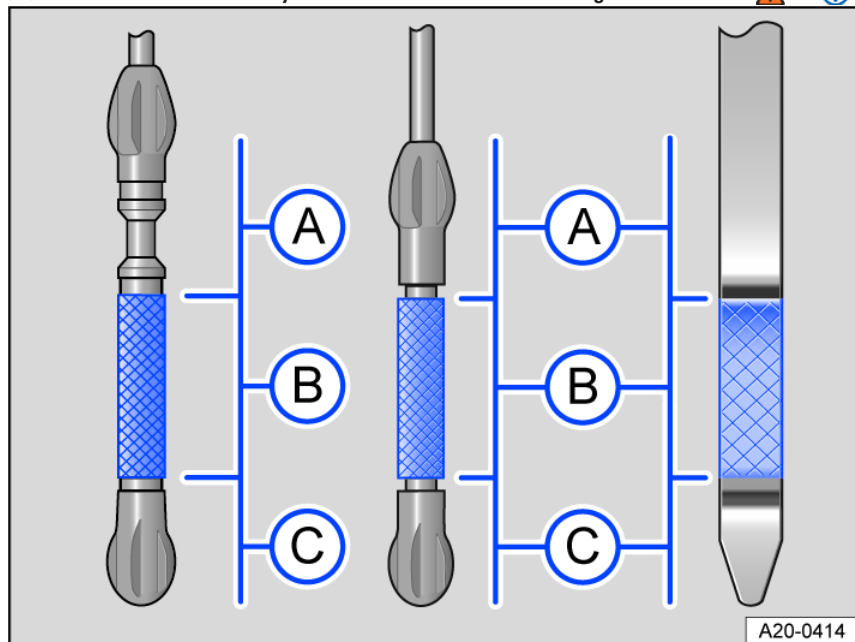
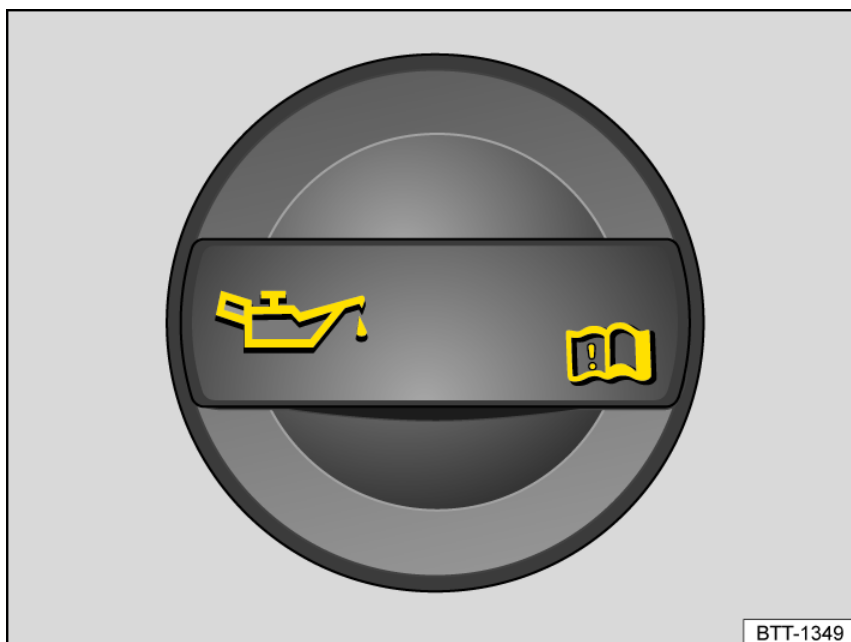

Fig. 197 Engine oil level markings on the oil dipstick (versions).
Fig. 198 In the engine compartment: engine oil filler cap (general example).
4. Find the engine oil filler and the dipstick. You can identify these by the 🛢 symbol on the engine oil filler cap *fig. 198* and the colored handle on the dipstick *fig. 197*. If you are not sure where the cap and the dipstick are located, contact an authorized Volkswagen dealer or authorized Volkswagen Service Facility for assistance.
7. Remove the dipstick again and read the oil level on the dipstick as described below *fig. 197*:
- (A) The engine oil level is too high. If necessary follow the messages in the instrument cluster display or **contact an authorized Volkswagen dealer or authorized Volkswagen Service Facility for assistance** ⇒ ⚠.
- (B) The engine oil is at the correct level. Engine oil can be added up to the **upper edge of this area**, for example if there is heavy engine load. Continue with step 8 or step 16 ⇒ ⚠.
- (C) The engine oil level is too low. **Add engine oil immediately**. Continue with step 8.
9. Remove the cap on the engine oil filler *fig. 198*.
13. When you are done adding oil, the oil level should be in the center of area *fig. 197* (B). The engine oil level must not be in the area *fig. 197* (A).
14. If you accidentally add too much oil and the oil level is in area *fig. 197* (A), **do not start the engine**. Contact an authorized Volkswagen dealer or authorized Volkswagen Service Facility for assistance.
- If you accidentally add too much oil and the oil level is in area fig. 197 A, do not start the engine. Contact an authorized Volkswagen dealer or authorized Volkswagen Service Facility for assistance if necessary. Otherwise, the catalytic converter and the engine could be damaged.